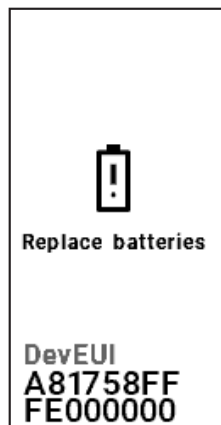

Figure 6.
**Low Battery mode:** If the sensor detects that the battery voltage is getting close to the limit of operation, the sensor will set the screen to display information that the battery needs to be replaced. It will not recover from this mode until the batteries are replaced. See figure 6.